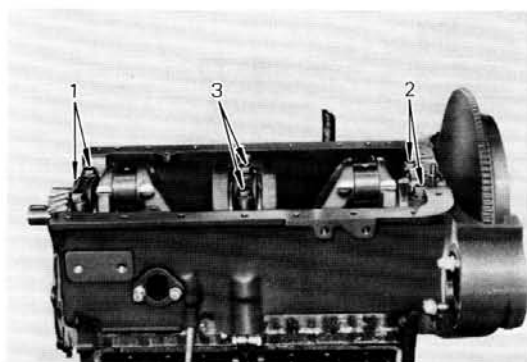

Fig. 1-10 Cap Bolts Loosening Order
31. Remove the crankshaft bearing caps together with the bearings. When loosening the cap bolts, follow the sequence of the numbers as shown in figure 1-10 in three progressive stages.